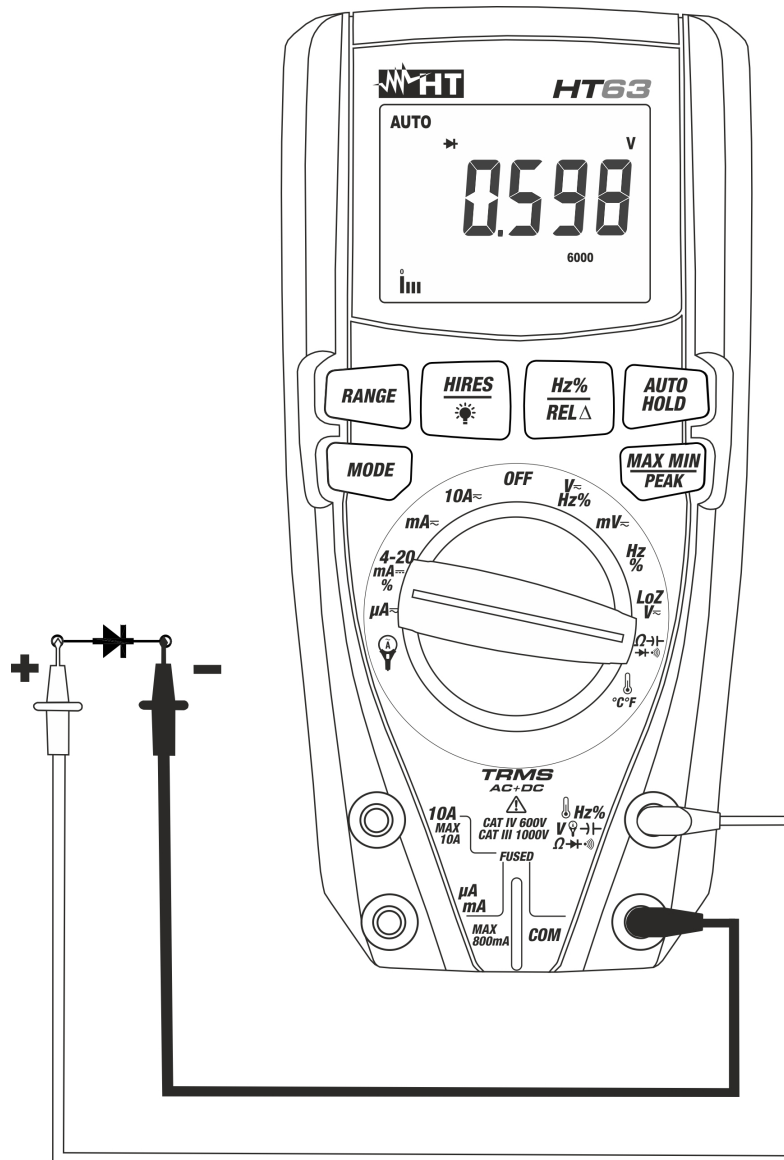

Fig. 7: Use of the instrument for diode test
4. Position the leads at the ends of the diode to be tested (see Fig. 7), respecting the indicated polarity. The value of directly polarized threshold voltage is shown on the display.
6. If the display shows the message “**O.L**”, the terminals of the diode are reversed with respect to the indication given in Fig. 7 or the P-N junction of the diode is damaged.